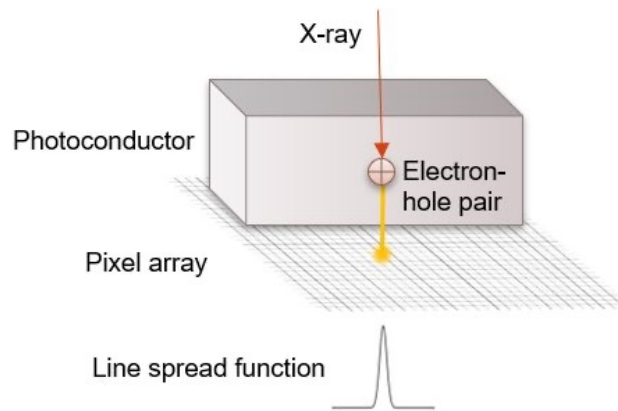

FIGURE 22
- / Direct conversion gives a high spatial resolution (Fig. 22).